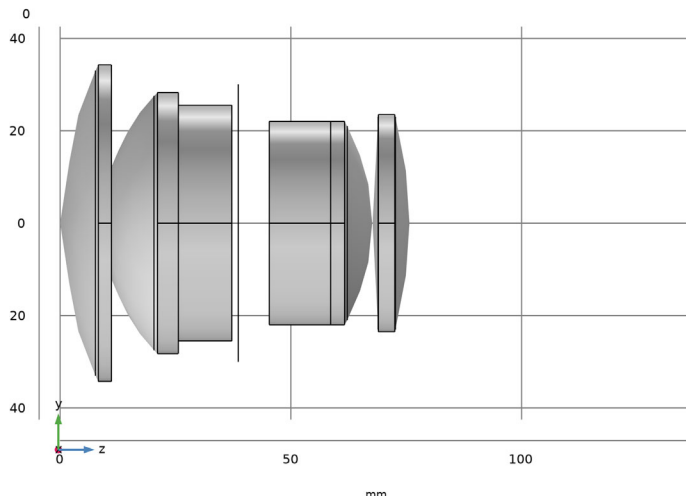
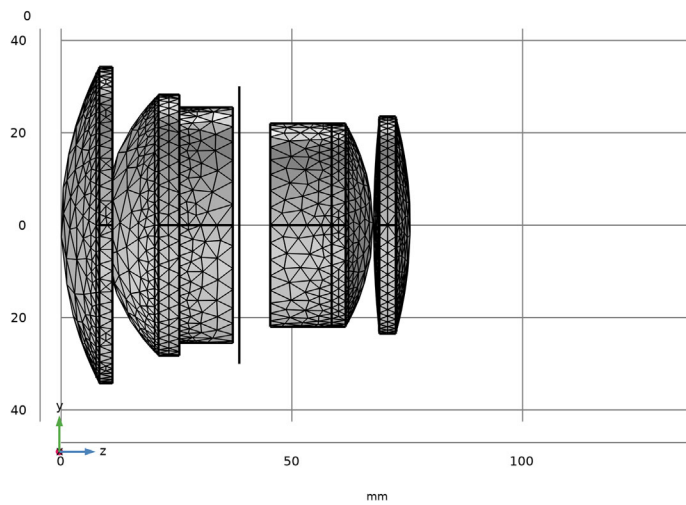

Figure 2: The double Gauss lens geometry sequence.
Figure 3: The default Physics-controlled mesh for the double Gauss lens.
is simplified by making use of the predefined work planes within the part instances. It is important to appreciate that the ray tracing method used by the Geometrical Optics interface is inherently nonsequential, so the same result could be obtained by placing part instances within the geometry in any order. The double Gauss lens geometry sequence is shown in Figure 2 and the default, physics-controlled mesh, is seen in Figure 3.
- 7 In the **Graphics** window toolbar, click ▼ next to  **Go to Default View**, then choose **Go to ZY View**. Orient the view to place the *z*-axis (optical axis) horizontal and the *y*-axis vertical. Compare the resulting geometry to Figure 2.